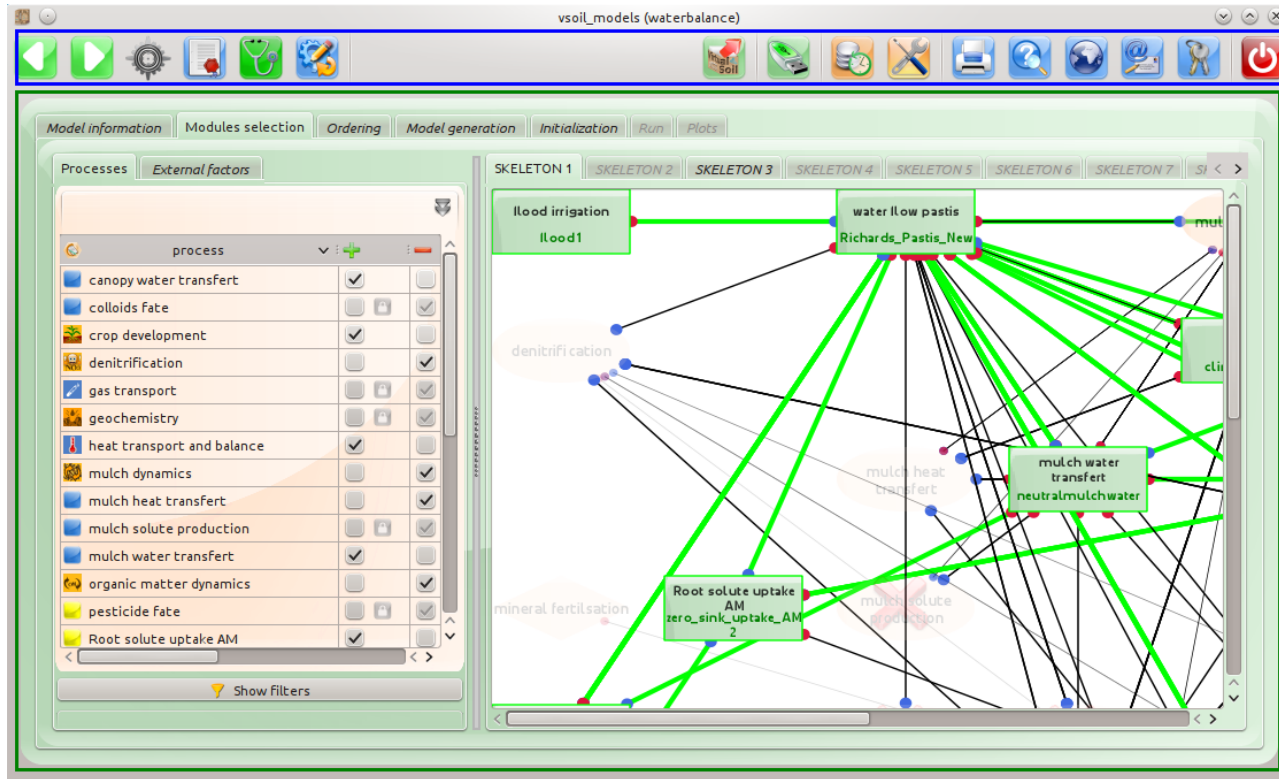
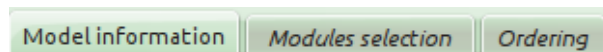

Figure 7: Main functions of the “vsoil-models” application
Figure 14: Tabs representing the three steps required to create a model
The workspace is divided into two parts (see figure 7):
1. Part 1: toolbar (blue frame in the figure 7) divided into two parts:
2. Part 2: access to the different steps to create, modify and use a model (green frame in the figure 7).
Each step corresponds to a tab (see figure 14) in the working environment (see green frame in figure 7).
Go to the next step: To do this click on the  button in the toolbar (see the blue frame of the figure 7). If all the information is valid, you go to the next step. If an error is detected, then an error message appears. In the case of creating a model, if the information is valid, then the model is created.